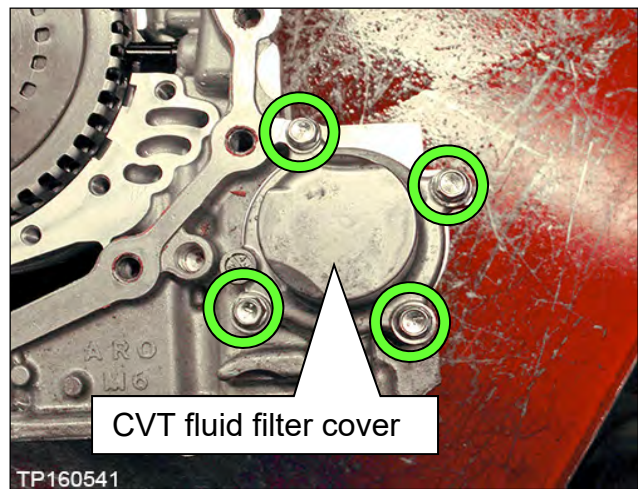

Figure 52
- a. Remove the four (4) bolts and then remove the CVT fluid filter cover (Figure 52).